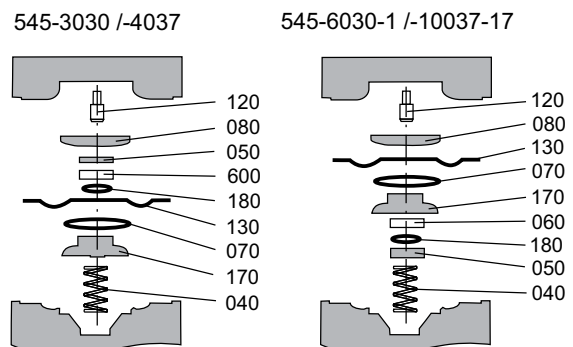

fig. 7 Change the seat and diaphragm.
- Push the diaphragm disc (pos. 170, see fig.7) (with diaphragm, seat, screw part and O-rings) onto the piston
- Do not lose the spring (pos. 040, see fig.7).
- Unscrew the diaphragm ring (pos. 080, see fig. 7).
- Check the O-ring (pos. 070, see fig.7).
- Remove the diaphragm (pos. 130, see fig.7).
- Firmly tighten the diaphragm ring (pos. 080, see fig.7).
- Unscrew the screw part (050, see fig.7).
- Push the complete diaphragm disc (pos. 170, see fig.7) (with diaphragm, seat, screw part and O-rings) onto the piston.